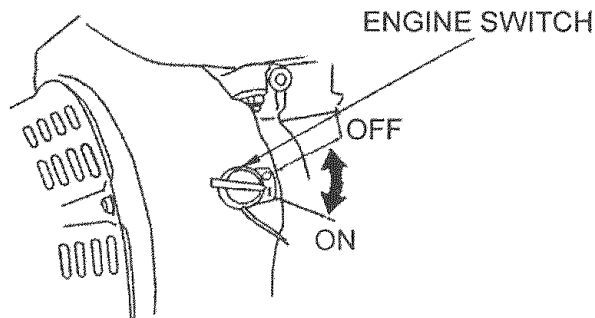

Figure 9- Engine switch positions
4. Move the engine switch to the “on” position as shown in figure 9.